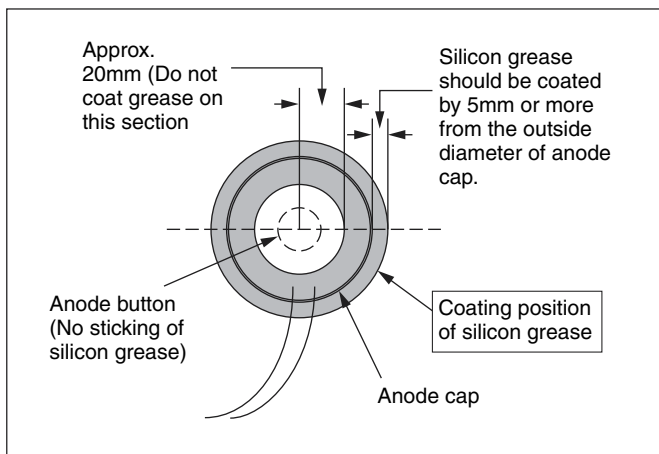

Fig. 6
- 2. Coat silicon grease on the section around the anode button. At this time, take care so that any silicon greases does not sticks to the anode button. (Fig. 6)